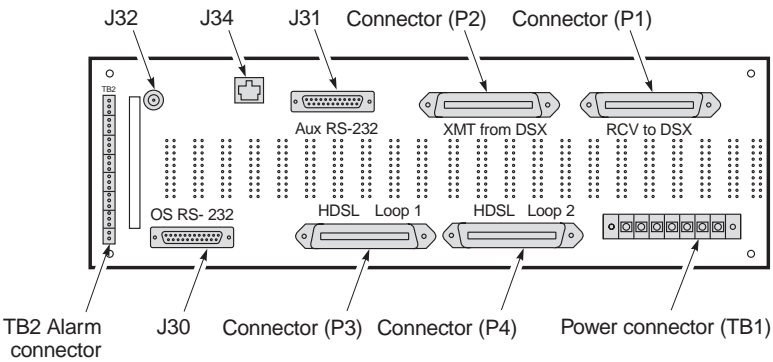
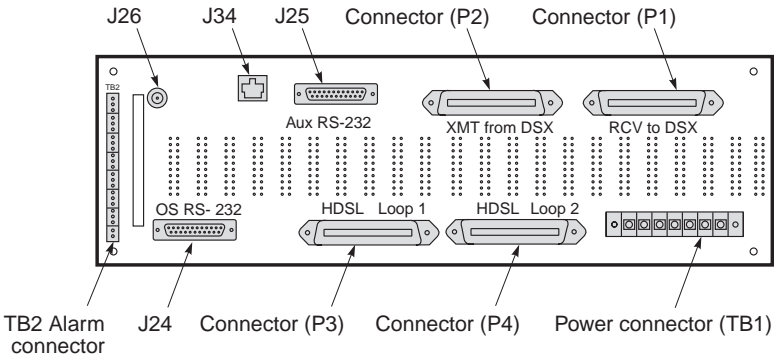

Figure 2. Rear View of the HMS-317
Figure 3. Rear View of the HMS-318
Each shelf provides power (TB1) and alarm (TB2) connections, with backplane communications between the HMU slot and the other card slots (Figure 2 and Figure 3).
Two backplane RS-232 communication ports, J30 and J31 on the HMS-317 (Figure 2 on page 2) and J24 and J25 on the HMS-318 (Figure 3 on page 2), allow two optional management interfaces to be connected to the HiGain system. Table 1 and Table 2 on page 4 list the pin connections for the DB25 connectors on the backplane.
Two backplane connectors, J32 on the HMS-317 and J26 on HMS-318, are available for chaining the management ports of up to 32 shelves together over an integrated LAN. Two other connectors, J34 on both figures, provide a 10BASE-2 and a 10BASE-T (IEEE.802.3) Ethernet LAN (see Figure 2 and Figure 3 on page 2).
- a Plug the DSX/G.703 interface cables into P1 and P2 and the HDSL interface cables into P3 and P4 (Figure 2 and Figure 3 on page 2). Span connections are listed in “Signal and Pin Assignments” on page 11. “Standard PIC Color Code” on page 19 contains the standard PIC cable color codes.